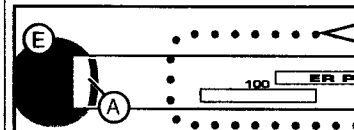

Fig. 4
- 3 If necessary, degrease the surface and apply the reference adhesive strip S (fig. 4). Apply the strip lengthwise so that reference line A is in line with the edge of drain E on the bathtub.